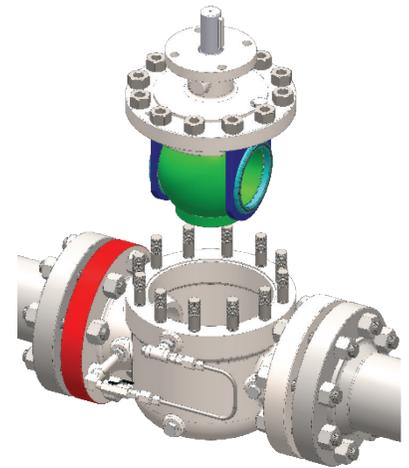

Figure 1: Cartridge Removal/Installation
5. Loosen and remove bonnet bolting. Remove the cartridge from the valve body, Figure 1. If the cartridge is difficult to remove, attach a lifting device to the two eye bolts or jack screws located on top of the bonnet. The cartridge must be pulled straight out from the body to ensure easy removal.